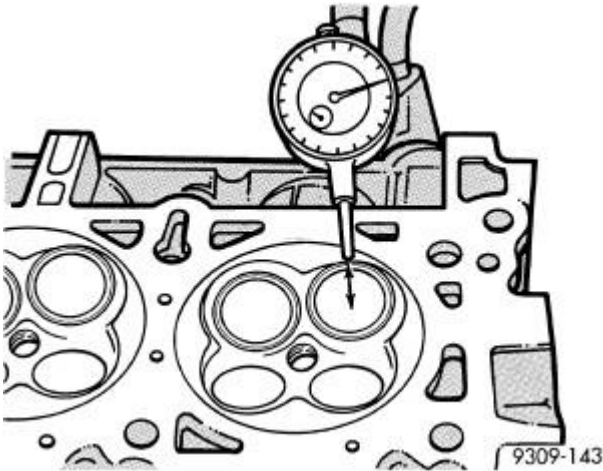

Fig. 95: Measuring Valve Guide Wear
4. Attach dial indicator Tool (special tool #C-3339A, Set, Dial Indicator) to cylinder head and set it at right angle of valve stem being measured. Refer to **Fig. 95**.